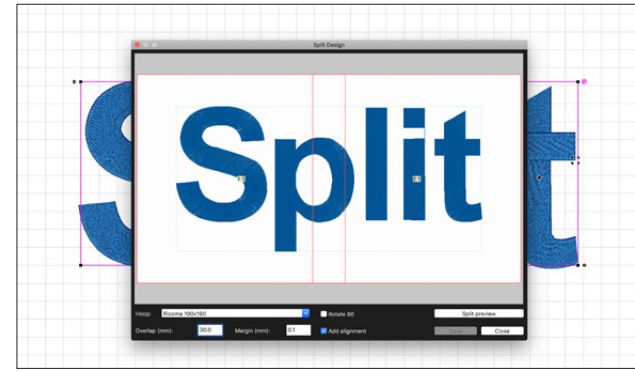

Figure 67
1. Click on the Split Design menu along the top toolbar. This shows you which part of the design will land on each hoop. **See Figure 67.**